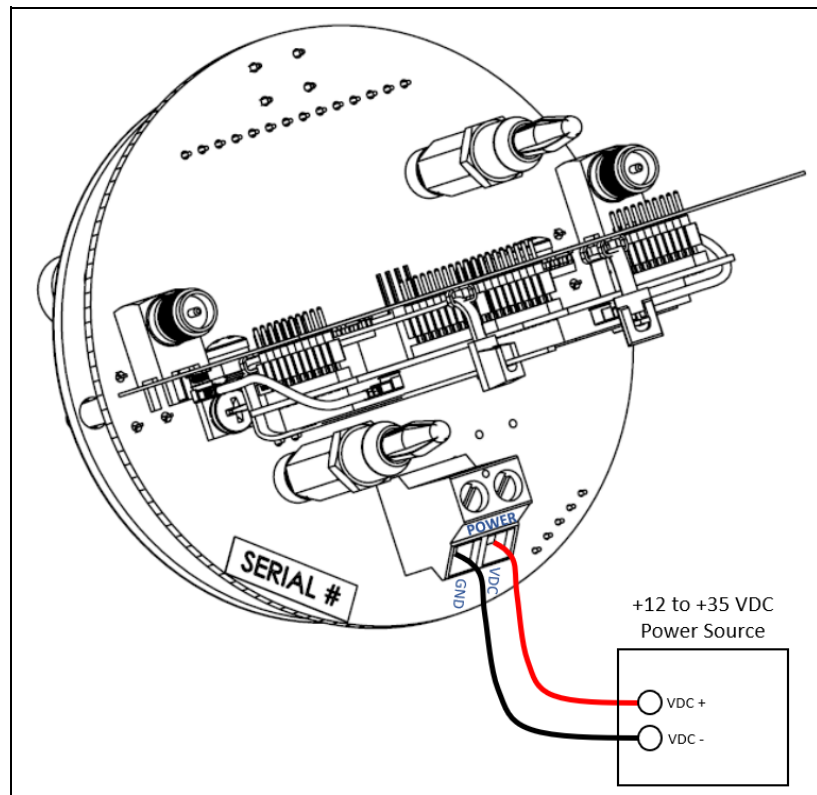

Figure 4: Power Wiring
4. Locate the power terminal block on the control board and complete the following (see Figure 4).